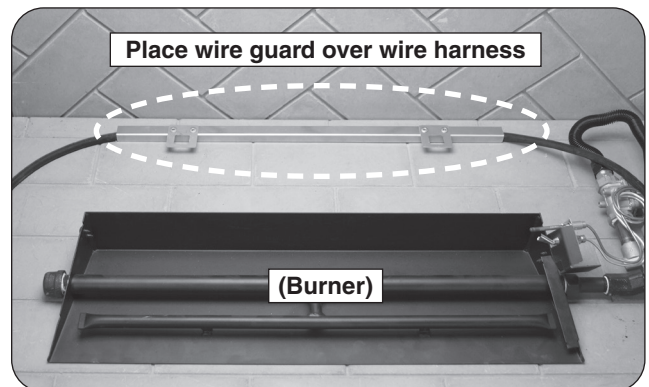

Fig. 16-2 Place wire guard (if applicable)
- 02, 02M, & 17 models only:** Place the wire guard over the wire harness that is routed along the rear of the fireplace. (The wire routes from the valve assembly to the remote receiver / switch box.) See Fig. 16-2 and 16-3.